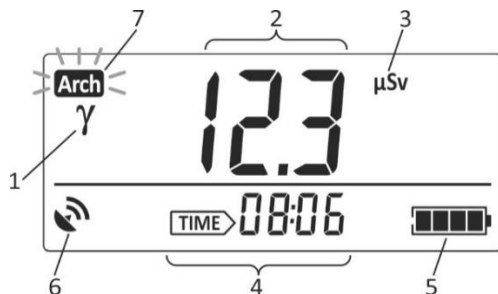

Figure 2.26 – LCD of the dosimeter
2.3.6.8.2.2 The LCD of the dosimeter displays the following in this mode (Figure 2.26):
- “ γ ” symbol – measured radiation type (1);
- accumulated DE value (2);
- accumulated DE dimension (3);
- DE accumulation time (4);
- battery status symbol (5);
- navigation receiver status symbol (6);
- sign (7) of critical filling of the dosimeter’s nonvolatile memory, where DE accumulation history is stored (2.3.4 of this OM).